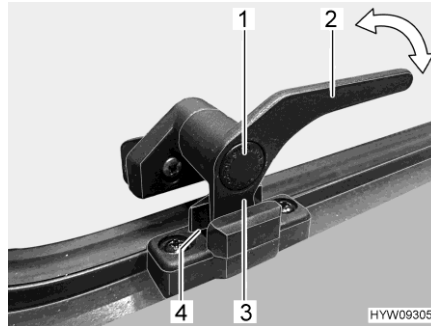

Fig. 65 Catch lever ("continuous ventilation" position)
- "Continuous ventilation" (Fig. 65)
- Press the safety knob (Fig. 65,1) and keep it pressed.
- Turn the catch lever (Fig. 65,2) a quarter turn towards the centre of the window.
- Return the catch lever to its initial position. Move the locking catch (Fig. 65,3) on the catch lever into the recess of the window catch (Fig. 65,4).
- Release the safety knob (Fig. 65,1).